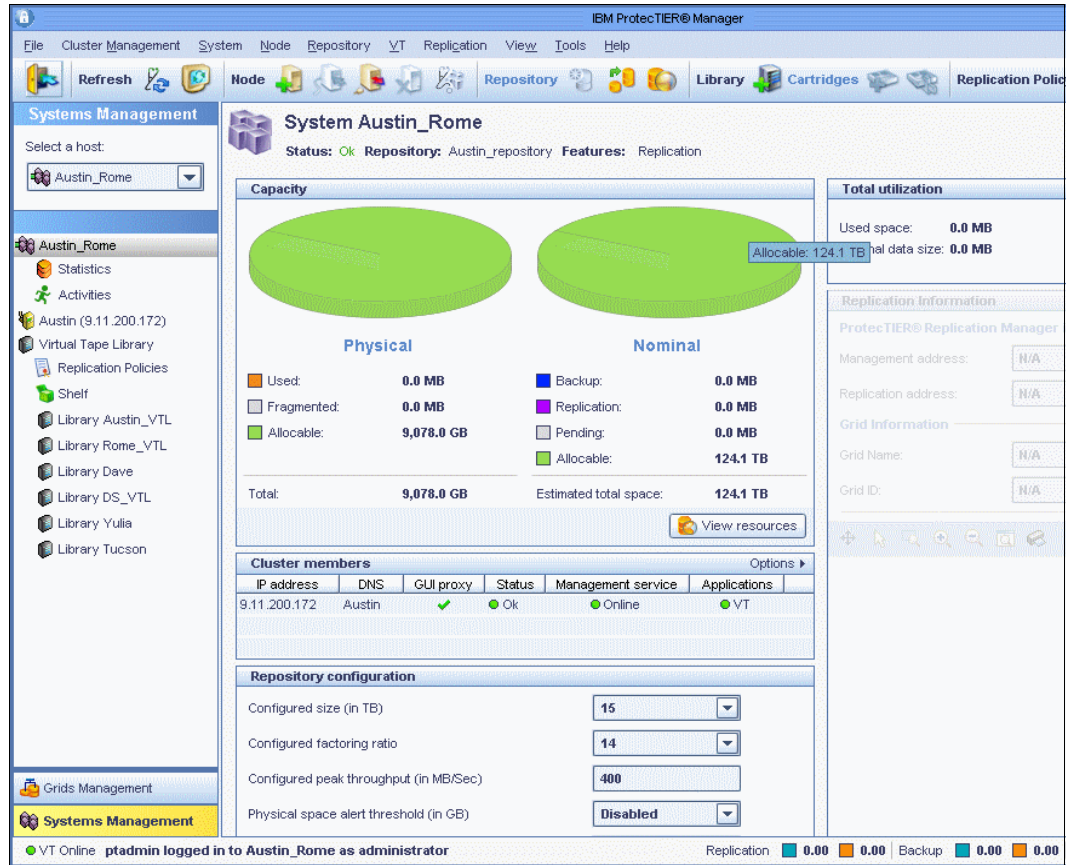

Figure 10-88 ProtecTIER Manager window without the removed cluster member
- Click **Finish**. The Remove cluster member wizard closes and the selected node is removed from the two-node cluster (Figure 10-88).